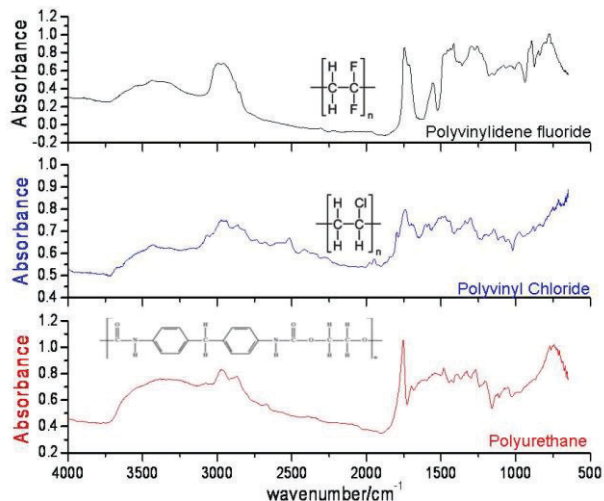

Figure 1. Diffuse FTIR Spectra of Polyvinylidene Fluoride, Polyvinyl Chloride, and Polyurethane
The identification of coatings on materials can prove to be a cumbersome task, especially when samples look identical to the eye. At times, it is important to identify various materials in real time. Coatings are an excellent example of the materials that can be identified as most coatings, primers and bonding materials are made of organic compounds. In Figure 1, we show an example of using the Agilent 4100 ExoScan FTIR with the Diffuse Reflectance sampling interface to determine the difference between Polyvinyl Chloride (PVC), Polyurethane (PU), and Polyvinylidene Fluoride (PVDF). The spectra show that these are easily distinguishable from one another.